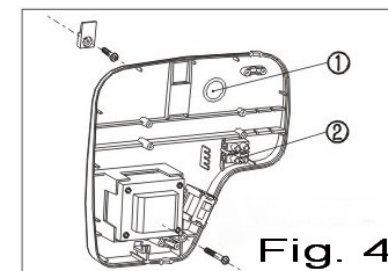

Fig. 4
- ❹ Press to remove the plastic bit marked ❶ on Fig. 4 to create hole for cable entry. Feed the cable from the wall through the hole slide the base plate of the holder in place onto the hanger, thus attaching the base plate. Connect cable to terminal block (marked ❷ on Fig. 4). Fix the unit onto the wall using one of the enclosed screws.